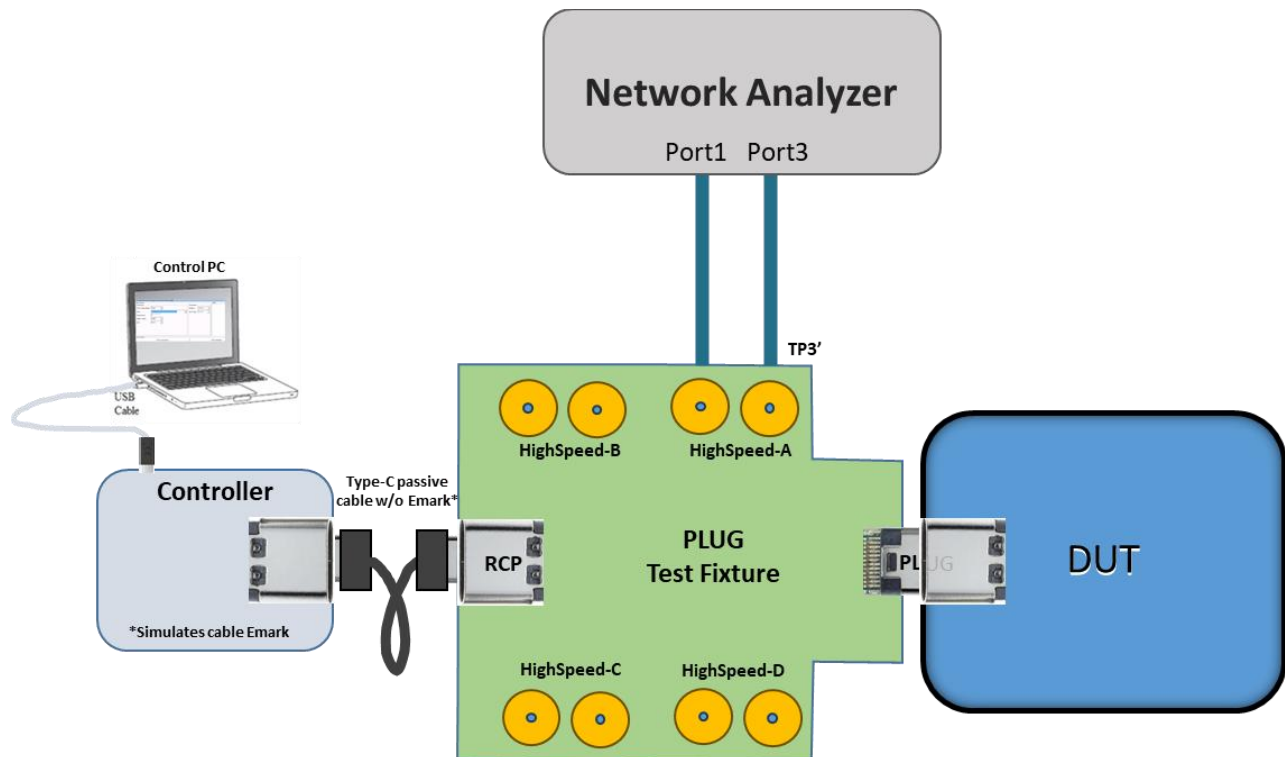

Figure 15. Receiver Return Loss Test Setup
3. Construct setup as shown in Figure 15. Use passive cable without Emark to connect USB4 micro-controller to the DUT as shown below